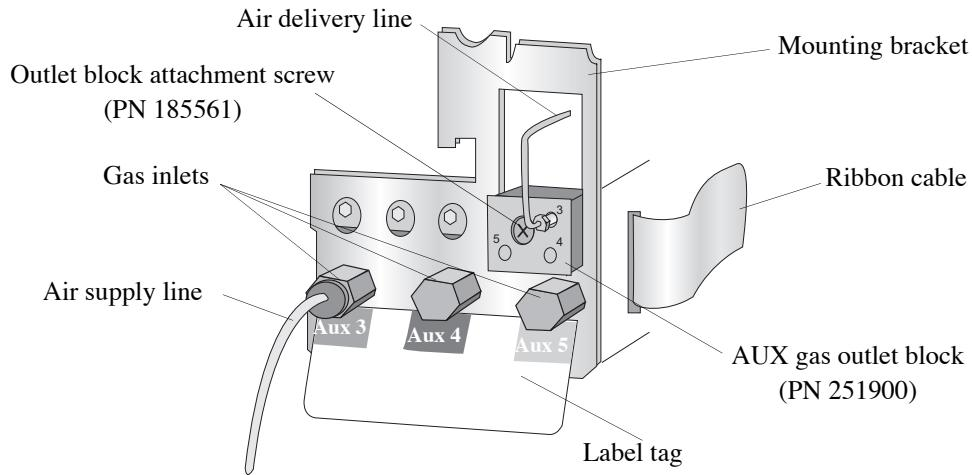

Figure 3.18. AUX pressure control manifold
2. Remove the Agilent gas outlet block attached to the front upper right corner of the AUX pressure control manifold by unscrewing the Torx T-20 outlet block attachment screw (PN 185561) (refer to Figure 3.18).